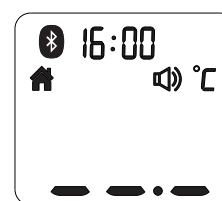

Figure 5
1. Press the *Test Button* to turn on the thermometer, you can take the object temperature after hearing two beep sounds. (see figure 5)